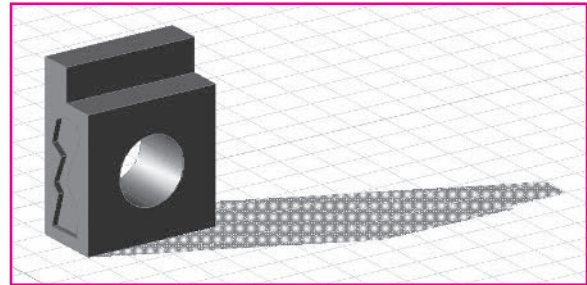

Fig. 47-9
1. Open the model **presspull.dwg**, which you created in Chapter 45. Light the model with sunlight for **January 1, 2009**, at **2:00 PM** for **Tulsa, OK**. Assign the material **Ornamental Metals.BrasSatin** to the solid. With the grid on, your model should look similar to the one in Fig. 47-9.